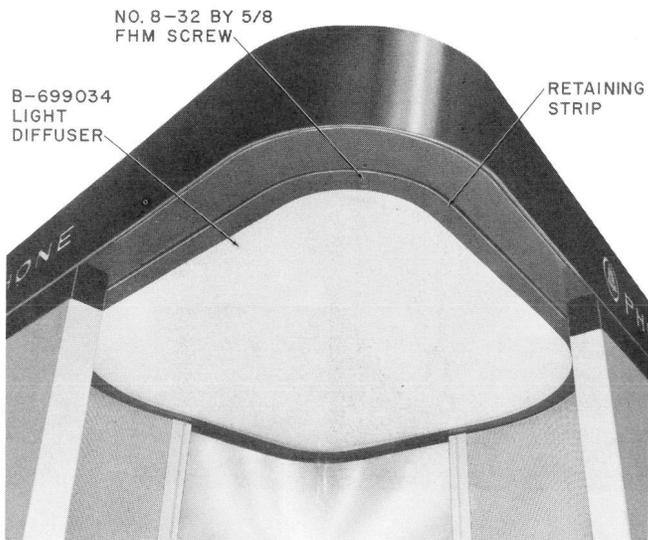

Fig. 5—Capitol Kiosk Booth—Ceiling
**2.07** The ceiling consists of a plexiglass light diffuser which is held in place by a retaining strip and eight No. 8-32 by 5/8 FHM screws (Fig. 5).
**4.07** Remove bottom light diffuser by removing eight No. 8—32 by 5/8 FHM screws and retaining strip (Fig. 5).